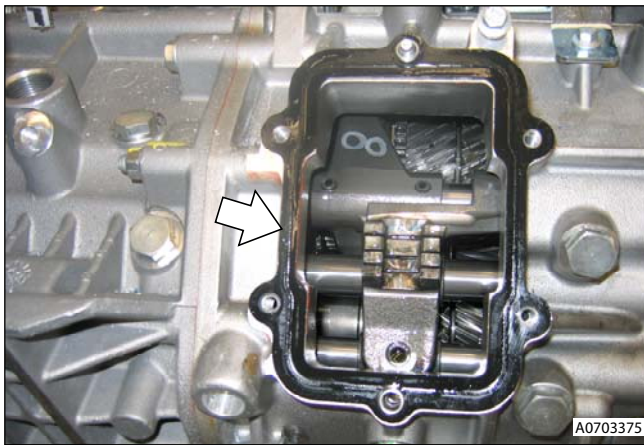

Figure 3
- Remove and discard gasket (see Figure 3).